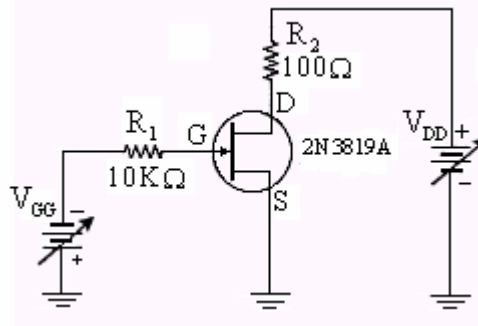

Fig.3: JFET Circuit
2. Construct the circuit shown in Figure 3. Start with V_{GG} and V_{DD} at 0 V. Connect a voltmeter between the drain and source. Keep V_{GG} at 0 V and slowly increase V_{DD} until V_{DS} is 1.0 V. (V_{DS} is the voltage between the transistor's drain and source).
13. Using the test circuit shown in Figure 3, test the effect of varying V_{GS} with V_{DD} held at constant +12 V. Tabulate a set of data of I_D as a function a of V_{GS} (Table.3). Start with $V_{GS} = 0.0$ V and take data every - 0.25 V until there is no appreciable drain current. Then graph the data on Plot 1. This curve is the transconductance curve for your JFET. The result is nonlinear because the gate-source voltage is proportional to the square root of the drain current. To illustrate this, compute the square root of I_D and record in Table 3. Plot the square root of the drain current, ($\sqrt{I_D}$), as a function of the gate-source voltage on Plot 2.